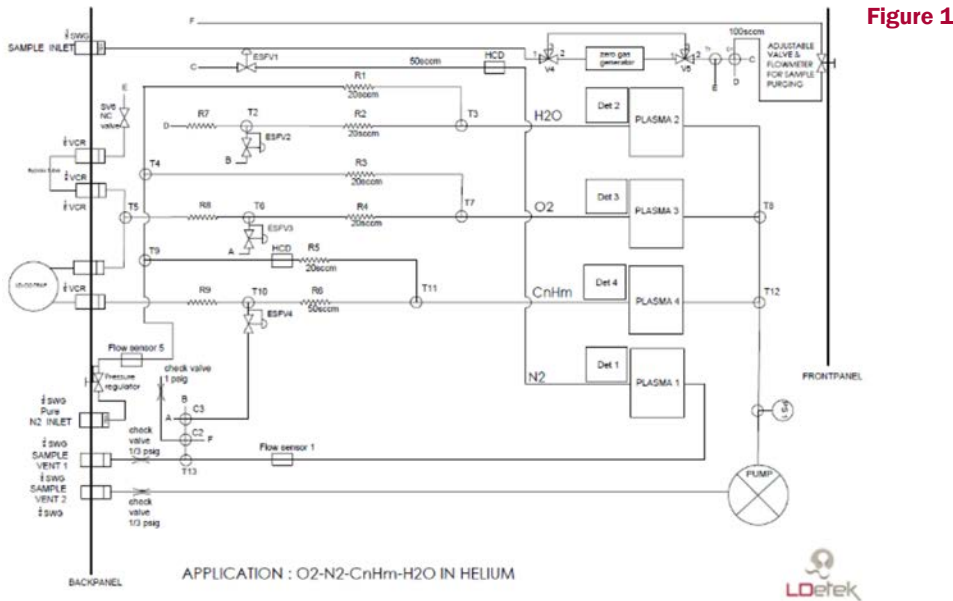

Figure 1
Figure 1 shows an installation where the required measurement must be configured for the following ranges (low to high ppm configuration):
Figure 1 demonstrates an instrument configured as follows:
- The N₂ doping input is required since the trace measurement of N₂ can reach 300ppm. The N₂ doping is then applied to the PEDs used for H₂O-O₂-CnHm measurement to eliminate the interference from the nitrogen beyond 10ppm. The nitrogen flow is generally controlled to the same value as the helium sample flow. We therefore speak of a ratio of 50% He / N₂. Figure 1 shows a value of 20sccm helium for 20sccm nitrogen. Total nitrogen consumption for the instrument is therefore 60ml/min. The nitrogen flow rate is controlled by static orifices pre-adjusted to a defined pressure. To ensure the stability of the nitrogen flow, a mini pressure regulator is mounted on the instrument as well as a pressure flow sensor. This assembly ensures the stability of the nitrogen flow rate which is very important for maintaining the N₂-He mixture equilibrium in the plasmas.
Photo of a configuration based on Figure 1 but for N₂-CnHm-H₂O measurements without O₂ measurement. Other configurations are based on the same mounting but with slightly different module layouts to accommodate the same 4U rack mount cabinet.
Conclusion on the configuration of Figure 1: